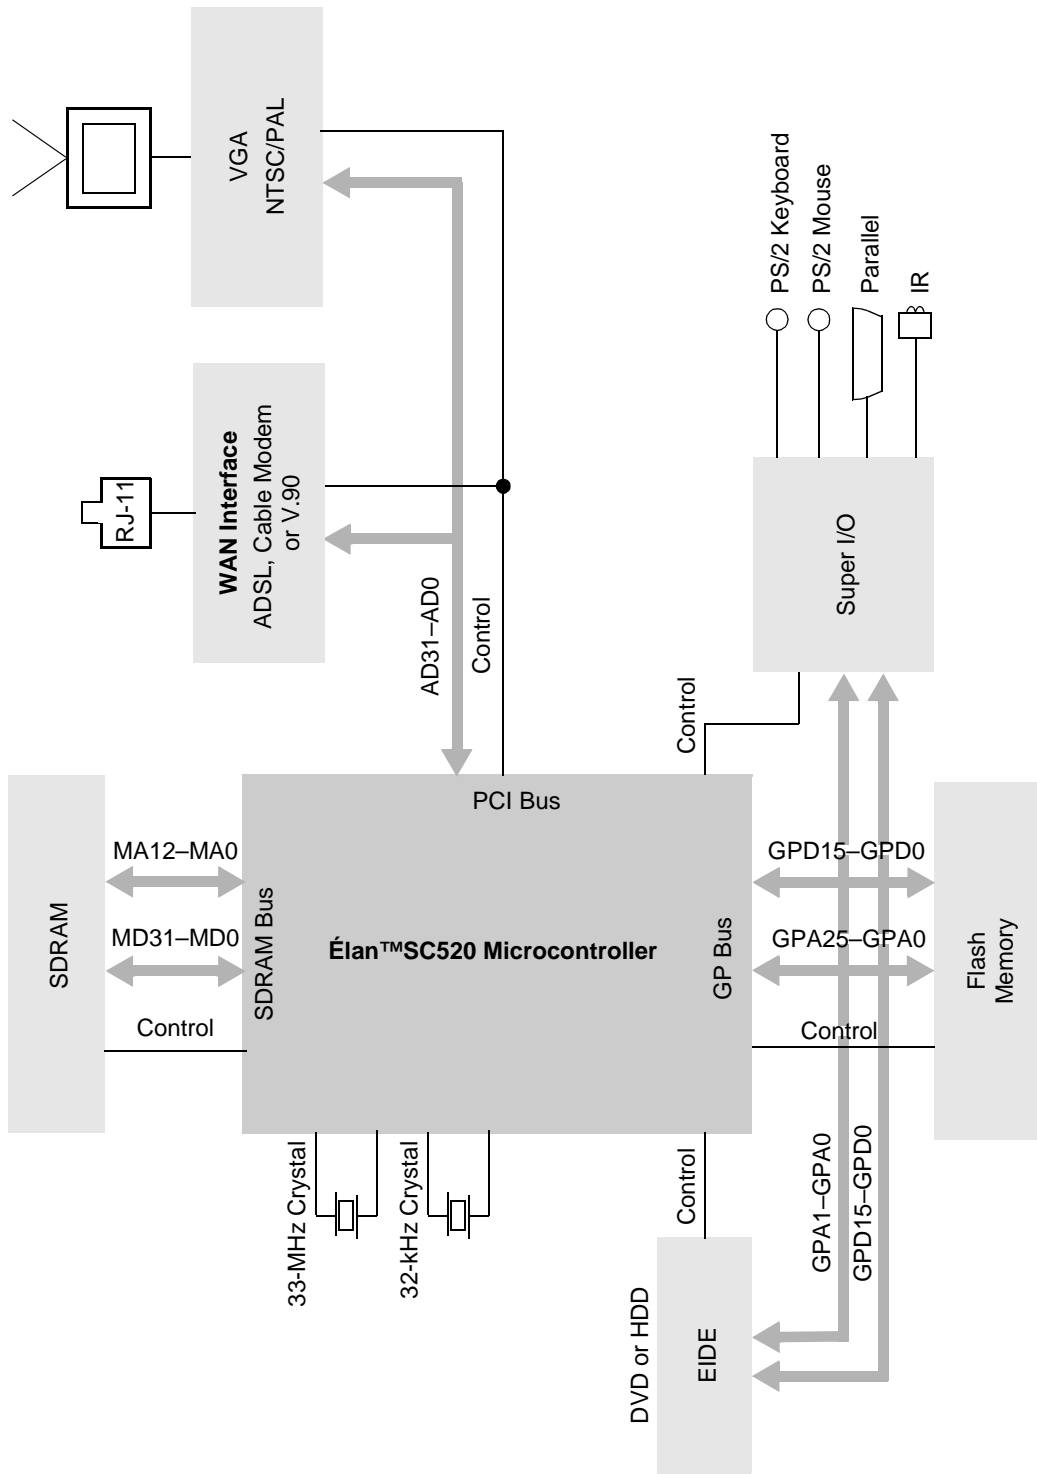

Figure 4. Élan™SC520 Microcontroller-Based Digital Set Top Box Reference Design
- Figure 4 on page 36 shows an ÉlanSC520 microcontroller-based digital set top box (DSTB), which is a consumer client device that uses a television set as the display. Common applications for the DSTB are internet access, e-mail, and streaming audio and video content.